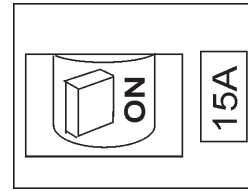

Figure 22. Main Circuit Breaker (ON)
3. Place the main circuit breaker (Figure 22) in the **ON** position.